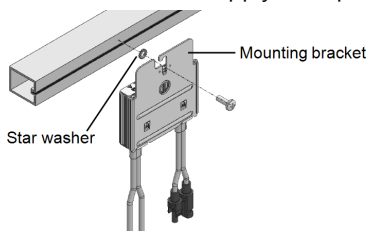

Figure 4: Power Optimizer installation and grounding using a star washer
1. Determine the Power Optimizer mounting location and use the Power Optimizer mounting brackets to attach the Power Optimizer to the support structure (See *Figure 4*). It is recommended to mount the Power Optimizer in a location protected from direct sunlight. For frame-mounted Power Optimizers follow the instructions supplied with the optimizers, or refer to https://www.solaredge.com/sites/default/files/installing_frame_mounted_power_optimizers.pdf.